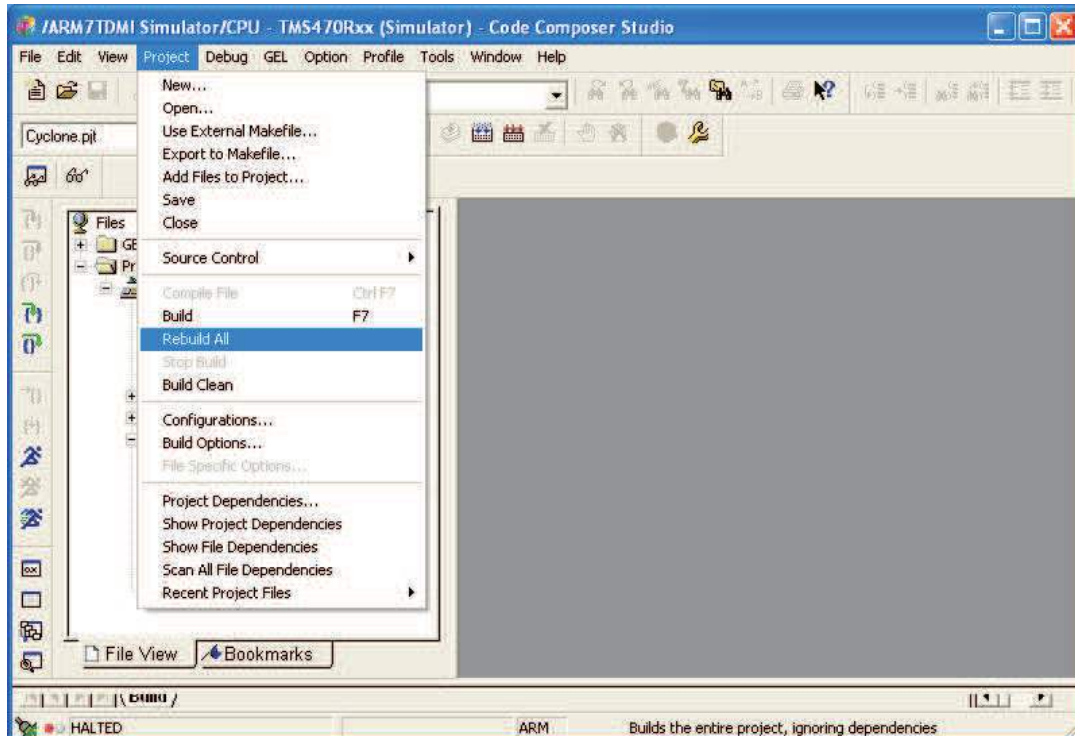

Figure 28. Open a Project File “Cyclone.pjt”- Rebuild All
8. As shown in Figure 28, select “Project M Rebuild All”. This generates the file “Cyclone.x0” based on “Cyclone.out”, and the file of “Cyclone.x0” is saved inside the folder where “Cyclone.pjt” is saved.